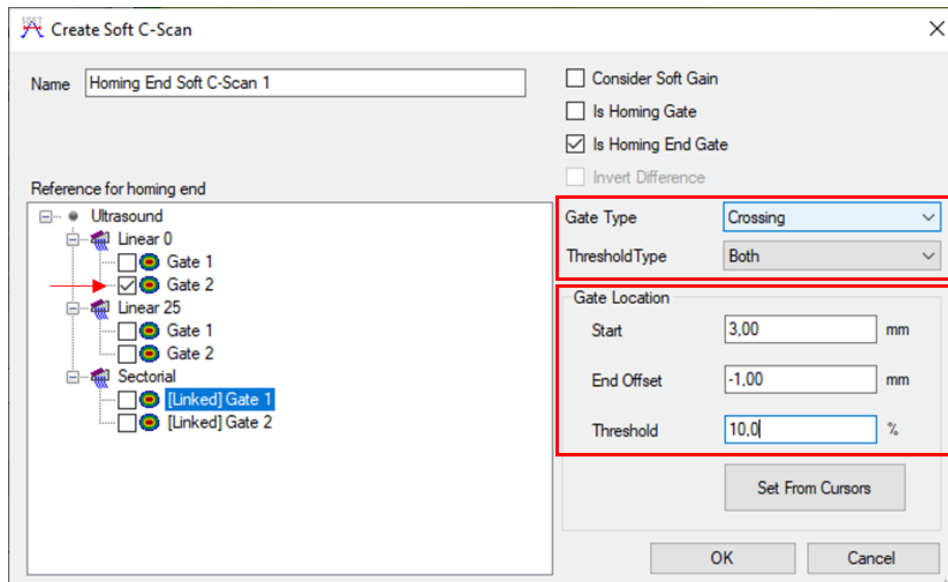

Figure 30: Configuring Homing End Soft C-Scan parameters
- In Figure 30, the user requests the Soft C-Scan Gate’s length to be adjusted so that it ends 1,00 mm before the position of the triggering signal in the reference gate (**Gate 2**)